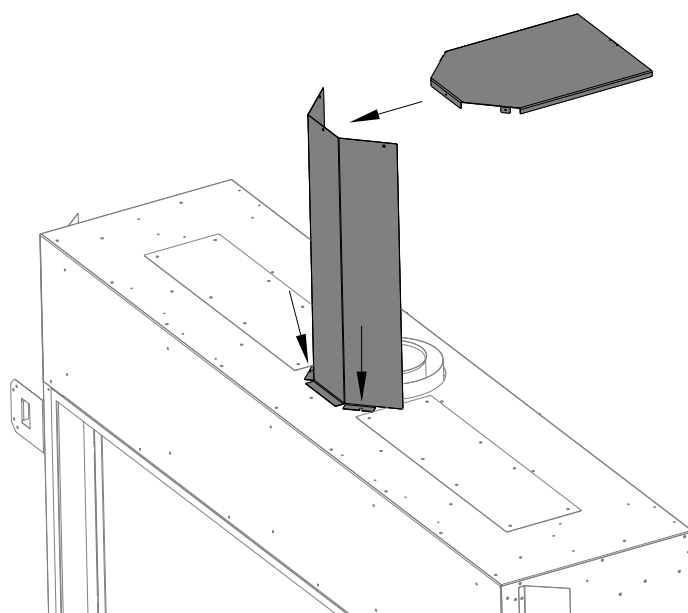

Figure 3.7 - Vent Heat Shield Installation
- When the vent pipe terminates at the ceiling of the fireplace enclosure you only use the front vertical vent heat shield as shown in Figure 3.7.
- When the vent pipe terminates at the wall at the minimum vent run use the front vertical and top horizontal vent heat shield as shown in Figure 3.7.